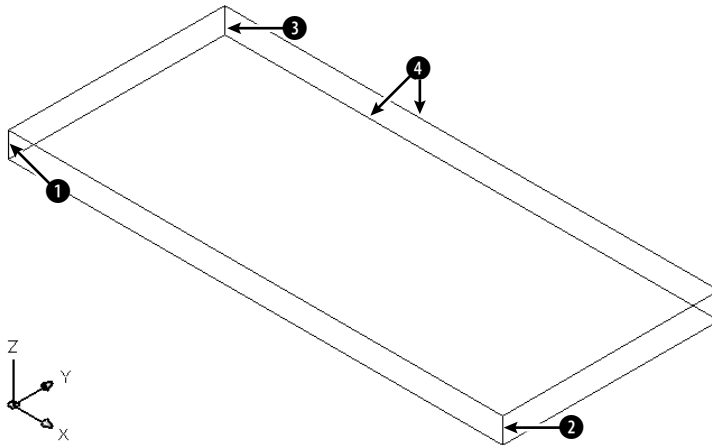

Figure 24-38: You can chamfer this solid box to create a new shape.
2. Save the file as ab24-12.dwg in your AutoCAD Bible folder. This is a simple box with dimensions of 233×102×12 millimeters, as shown in Figure 24-38.
Select first line or [Undo/Polyline/Distance/Angle/Trim/mEthod/Multiple]: *Pick the edge at ❶ in Figure 24-38.*